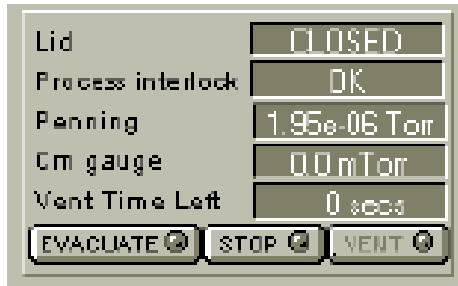

Figure 5-22 Process interlock field on the pumping page
- 4 Check that the **Lid** field indicates that the process chamber lid is closed (see Figure 5-22).